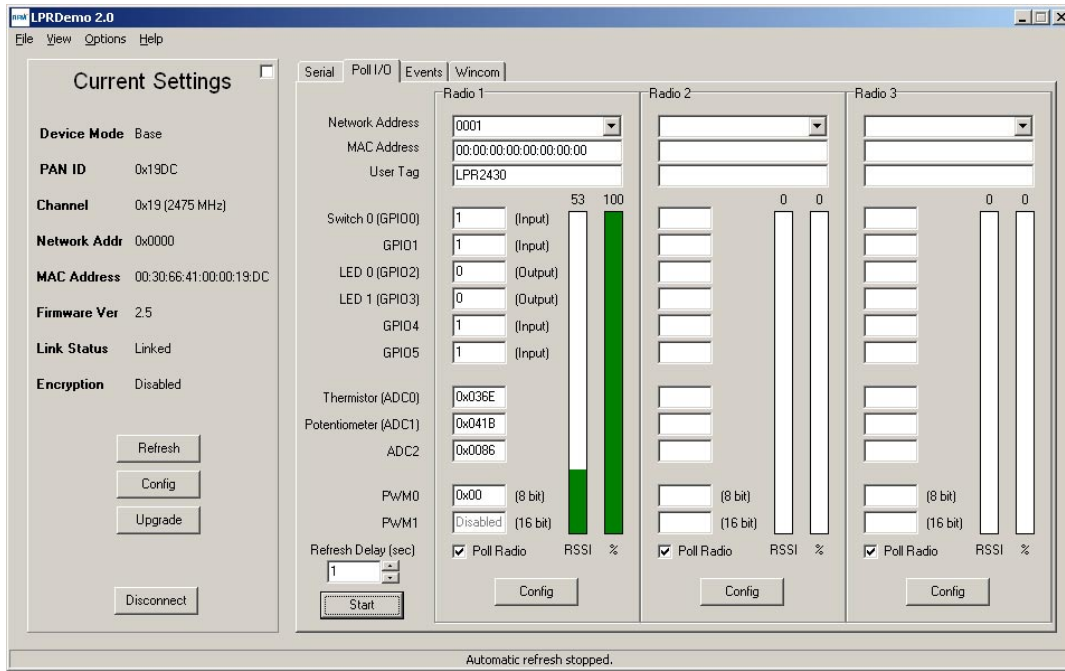

Figure 5.3.6
8. Next power up the Remote by plugging in its power supply or installing a battery. Click on the *Poll I/O* tab. Figure 5.3.6 shows the Poll I/O screen. Select the Remote's network address, 0001, in the *Network Address* drop-down box for *Radio 1*. If the address is not present, wait a few seconds to give the remote time to register with the base.